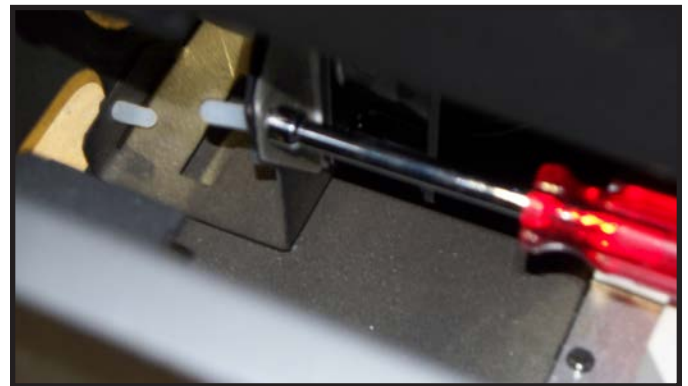

Figure 12.9 Remove Fastener
4. Remove fastener with 1/4 inch nut driver as shown in Figure 12.9.